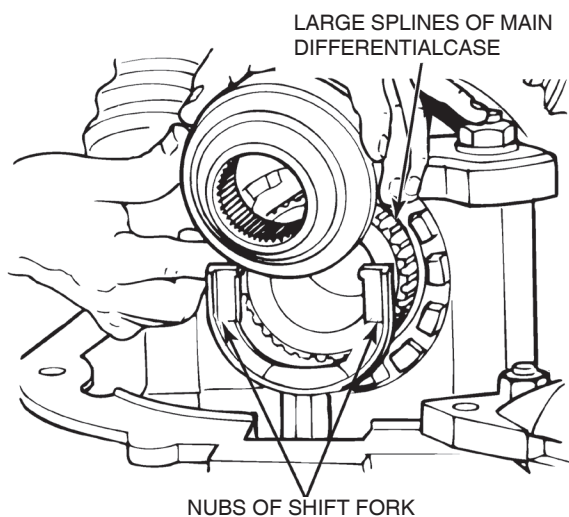

Figure 6.21
9. Position the shift collar over the fork. The large splines of the collar must face toward the main differential. Use a rubber mallet to tap the shift collar through the nubs of the shift fork. Figure 6.21.